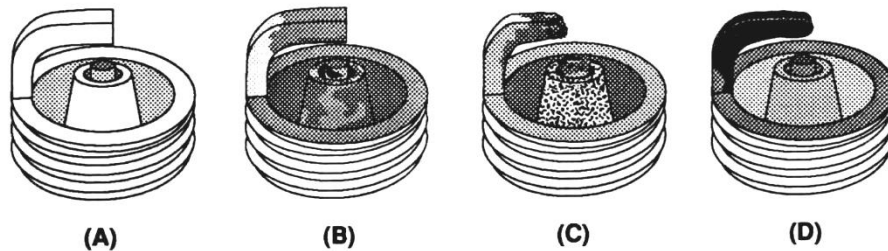

Figure 8 Spark Plug Condition
1. Perform a dynamometer pull or a full throttle pass down the racetrack. Note the power reading or vehicle mph (not e.t.). Examine the spark plugs for an indication of lean or rich nitrous/fuel conditions (refer to **Figure 8** for tips on reading the spark plugs). For this application, the air/fuel mixtures at WOT tend to be very rich in stock form. You may wish to examine a plug after a NO-nitrous pass or dyno pull for comparison purposes.